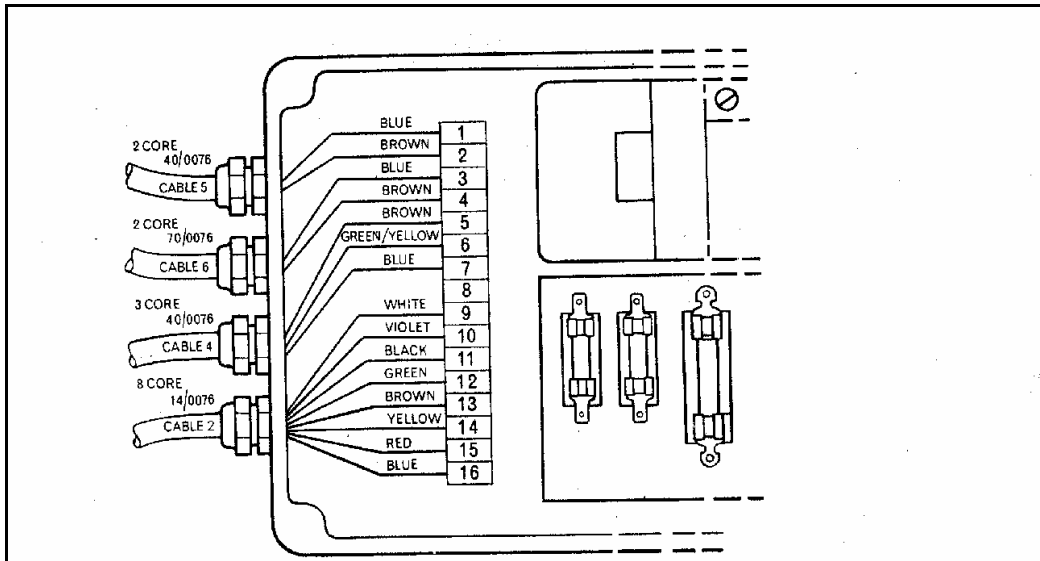
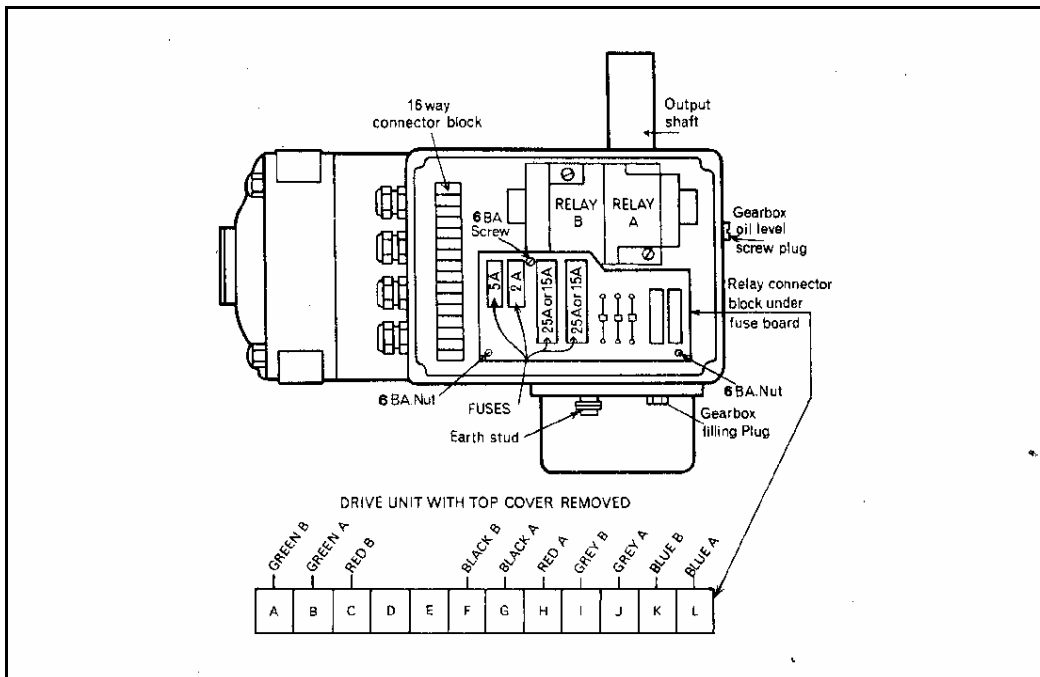
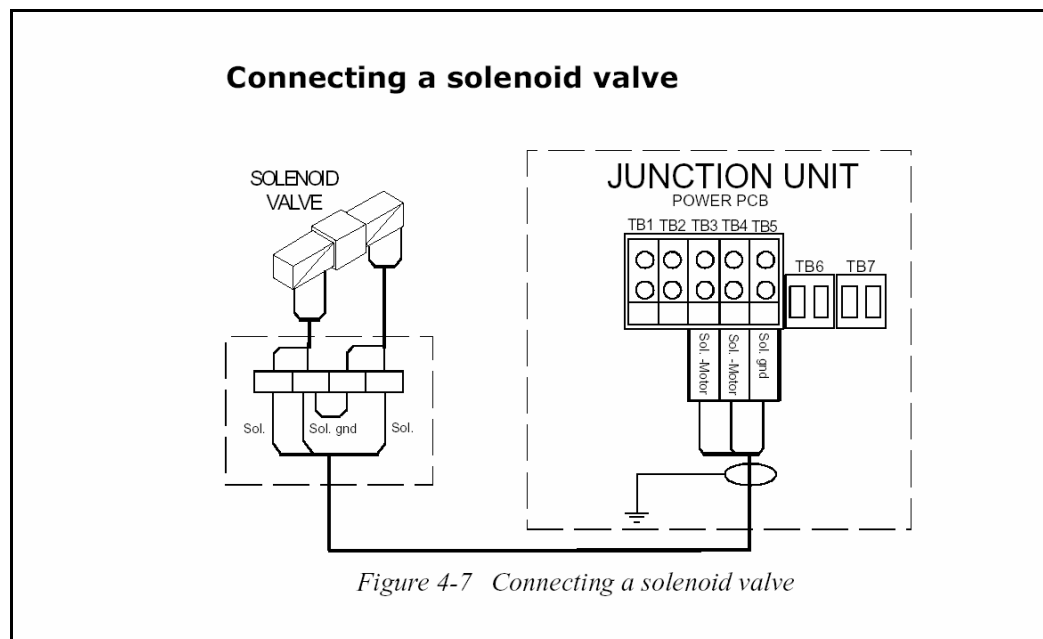

Figure 3. Particular of the Neco Relay Box (extracted from the Neco Manual).
Figure 4. Neco Drive Unit and Relay Box (extracted from the Neco Manual).
Figure 11. (extracted from the Simrad Manual)
1) Additional relay needed to control the clutch and the Shunt coil. It must be a high power DC relay (12V/15A switching specification or better), activated at 12V. Possible choices are OMRON G8P-1C4P 12DC or Tyco Electronics VF4-11F13 but any good automotive high power relay may work; the minimum requirement configuration is SPST NO (single pole, single throw, normally open). It is important that all connectors are isolated from ground and the absorption of the coil is as little as possible (approx 100mA). Find a proper way to accommodate the relay either inside the original Neco Relay Box or close to it. If it is not inside the Relay Box check that it is well protected from moisture. The two coil terminals (DU5) and (DU6) must be connected to the autopilot central unit Clutch Output while the two switched terminals are to be connected to the DU as drawn in Figure 4: terminals Nr. 7 and Nr. 9 of the 16-terminal block (Figure 2). Be sure to use only the Common Terminal and the Normally Open Contact of the relay if it is not SPST-NO (check its datasheet). Voltage polarity is NOT important in any connection of this relay.
2) The 2A Fuse placed in the Neco Relay Box (second from left in the Figures 2, 3 and 4) must be taken off in order NOT to send the electric negative of the boat to that part of the circuit. (This is in accordance with the indication given by Raymarine “CAUTION” in Figure 8 but it is a good practice for any autopilot). In fact it is a good idea to disconnect and insulate the wire carrying the negative from the boat electric circuit to the terminal Nr. 1 of the 16-terminal block of the DU (Blue wire of Cable 5, Figure 3). Notice that the negative of the boat electric circuit is also carried to terminal Nr. 3 of the 16-terminal block; this connection, that does not feed back to the autopilot Central Unit but is necessary for the functioning of the motor, must remain.
There is a Brown wire connected to terminal 12 and a Violet connected to terminal 13 of the 16-terminal block (Figure 3)(12/16 and 13/16 respectively); a Black wire and a Yellow wire connected to the D and E terminals of the 12-terminal Relay Connector Block under the Fuse Board (Figure 4)(D/12 and E/12 respectively). Having now removed the feedback/end-switches assembly (Figure 6) with the resulting loss of continuity between 12/16 and D/12 and between 13/16 and E/12, the proper connection must therefore be restored inside the DU (Figure 5) with two short wires similar to the ones discarded: the first connected between 12/16 and D/12, and the second between 13/16 and E/12. (Note: the color coding of the cables was taken from several original Neco pages; although unlikely, some discrepancies in the color may exist and should be checked carefully).
The “Drive Motor Outputs” terminals MOTOR(A) and MOTOR(B) (AP, figure 9) are to be connected to (12/16)(defined also as DU3) and (13/16) (also DU4) of the 16-terminal block inside DU, Figure 3. Polarity is important for a correct rudder control but, unfortunately, the right choice must be checked according to a final test while in function: there is a 50% chance to find the right configuration at first shot. If the rudder corrections performed by the autopilot are in the wrong direction the link from MOTOR(A) and MOTOR(B) to 12/16(DU3) and 13/16(DU4) shall be crossed.
The terminals (10/16) (DU1) and (11/16) (DU2) of the 16-terminal block inside DU, Figure 3, are to be connected to the two “Drive solenoid return inputs” SOLENOID(-) of AP, Figure 9. Polarity is not important in this case.
Regarding the control of the motor through relays, we follow what is suggested by Simrad (Figure 11) for connecting its AP22 to a “solenoid valve” (solenoids are electrically identical to relays).
The terminals “Sol.-Motor” TB3 and TB4 (AP22, Figure 11) are to be connected to (12/16)(defined also as DU3) and (13/16) (also DU4) of the 16-terminal block inside the Neco Relay Box, Figure 3. Polarity is important for a correct rudder control but, unfortunately, the right choice must be checked according to a final test while in function: there is a 50% chance to find the right configuration at first shot. If the rudder corrections performed by the autopilot are in the wrong direction the link from TB3 and TB4 to 13/16(DU4) and 12/16(DU3) shall be crossed.
The terminals (10/16) (DU1) and (11/16) (DU2) of the 16-terminal block of the Neco Relay Box, Figure 3, are both to be connected to “Sol. gnd” TB5 of AP22, Figure 11.
The “Drive engage” TB6 + and TB6 - of the AP22, Figure 11, are to be connected to (DU5) and (DU6) of DU, Figure 5 i.e. to the coil terminals of the newly fitted relay. Polarity is NOT important.
The terminals “LEFT +” 1/TB11 and “RIGHT +” 3/TB11 (GEO, Figure 12) are to be connected to (12/16)(defined also as DU3) and (13/16) (also DU4) of the 16-terminal block inside the Neco Relay Box, Figure 3. Polarity is important for a correct rudder control but, unfortunately, the right choice must be checked according to a final test while in function: there is a 50% chance to find the right configuration at first shot. If the rudder corrections performed by the autopilot are in the wrong direction the link from 1/TB11 and 3/TB11 to 13/16(DU4) and 12/16(DU3) shall be crossed.
The terminals (10/16) (DU1) and (11/16) (DU2) of the 16-terminal block of the Neco Relay Box, Figure 3, are to be connected to “LEFT -” 2/TB11 and “RIGHT -” 4/TB11 of GEO, Figure 12. Polarity is not important in this case.